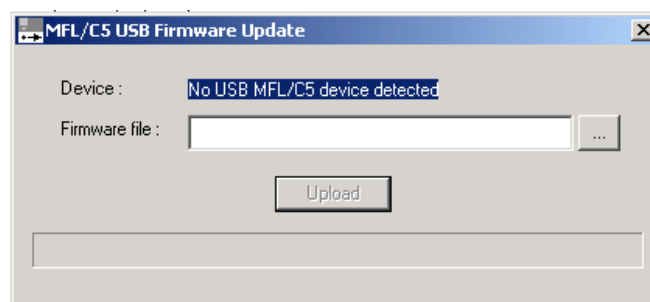

Fig. 1
8. Following windows can appear on the PC screen (see figure 1 / 2).